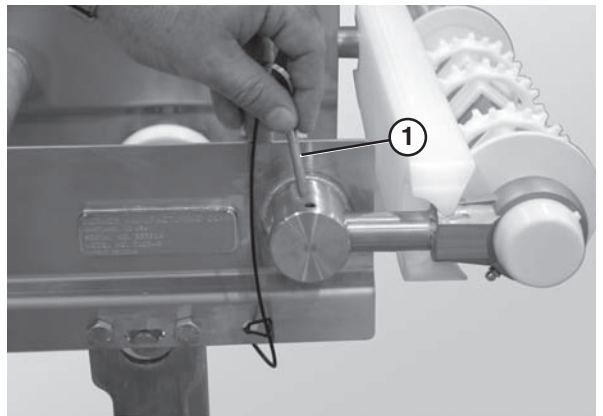

Figure 69
6. Remove the pull pin (Figure 69, item 1).
1. Remove the pull pins (Figure 69, item 1).